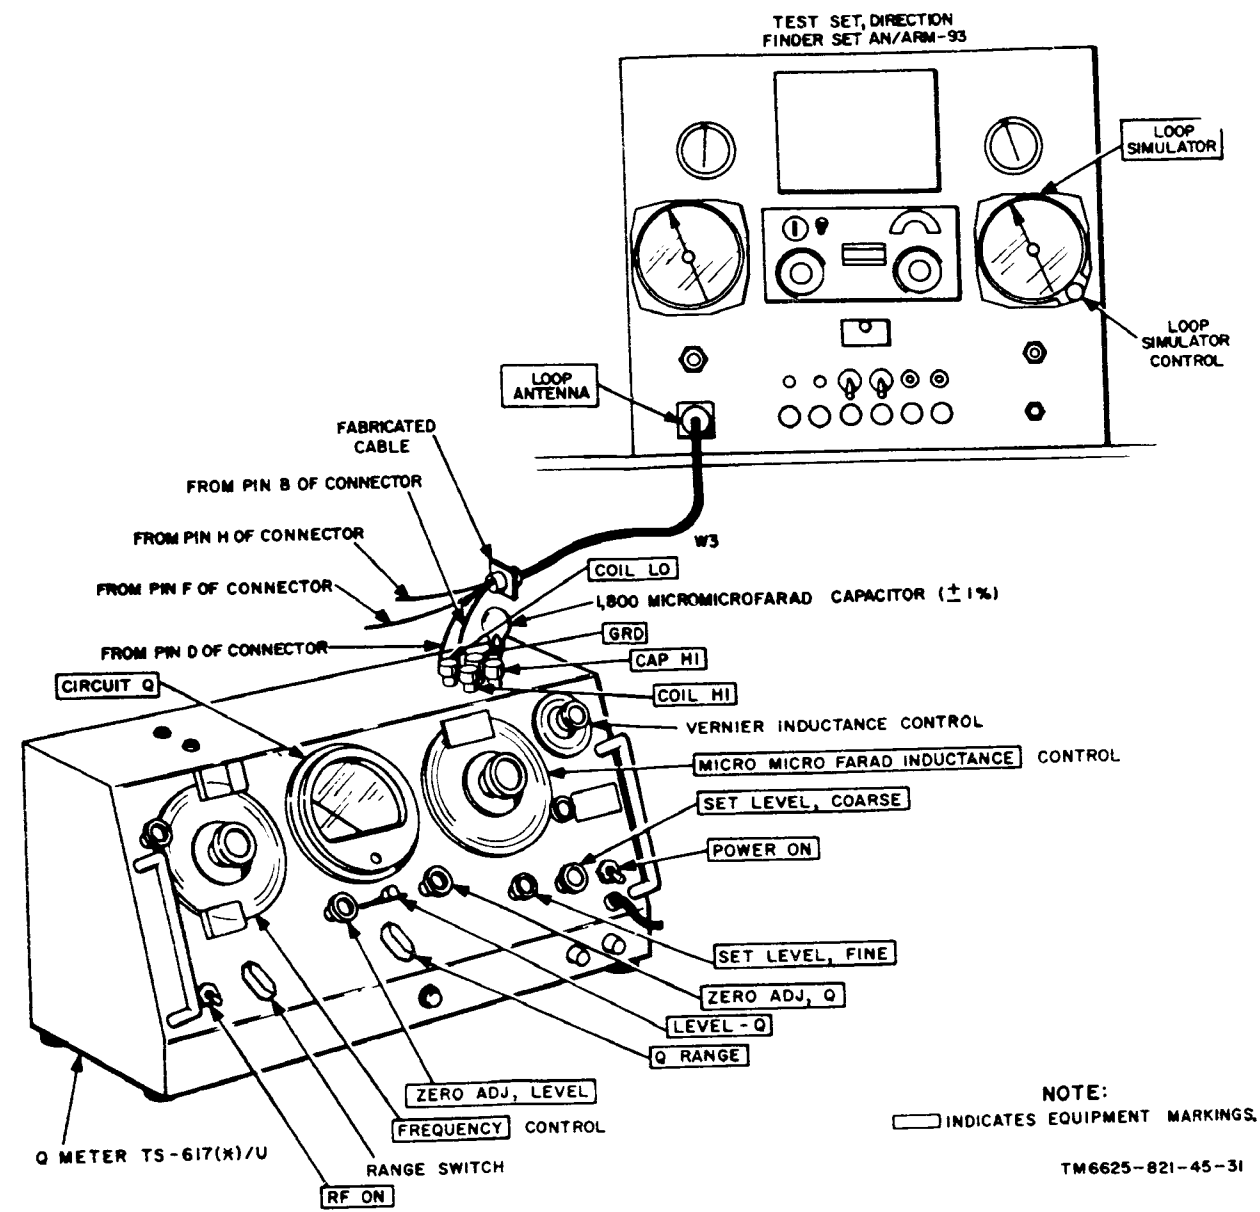

Figure 4-10. LOOP SIMULATOR impedance test setup.
(1) Q Meter TS-617(*)/U.
(2) Fabricated cable for the LOOP SIMULATOR.
(3) 1,800-micromicrofarad capacitor.
- b. *Test Connections and Conditions.* Connect the equipment as shown in figure 4-10. Set the TS-617(*)/U POWER ON switch to the ON position, and allow a 5-minute warmup period.